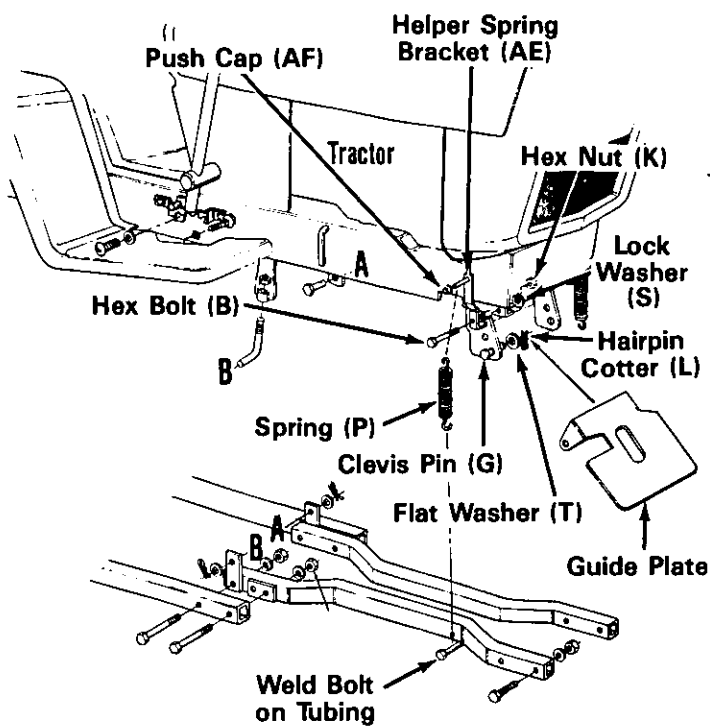

FIGURE 14
- A. Secure the hanger bracket on the left hand side of tractor to the tubing assembly on snow thrower, using the clevis pin, flat wash and hairpin clip (which came with the mowing deck). See figure 14.
15. Assemble the helper spring brackets (AE) as follows.
- b. Place hex bolt (B) through hole in helper spring bracket as shown in figure 14.
- c. Secure to tractor with lock washer (S) and hex nut (K). Tighten securely.
16. Hook one end of extension springs (P) over weld pins on helper spring brackets. Hook the other end over weld bolts on tubing assemblies. See figure 14.
21. Assemble the guide plate to the front of tractor using clevis pins (G), flat washers (T) and hairpin cotters (L). See figure 14.